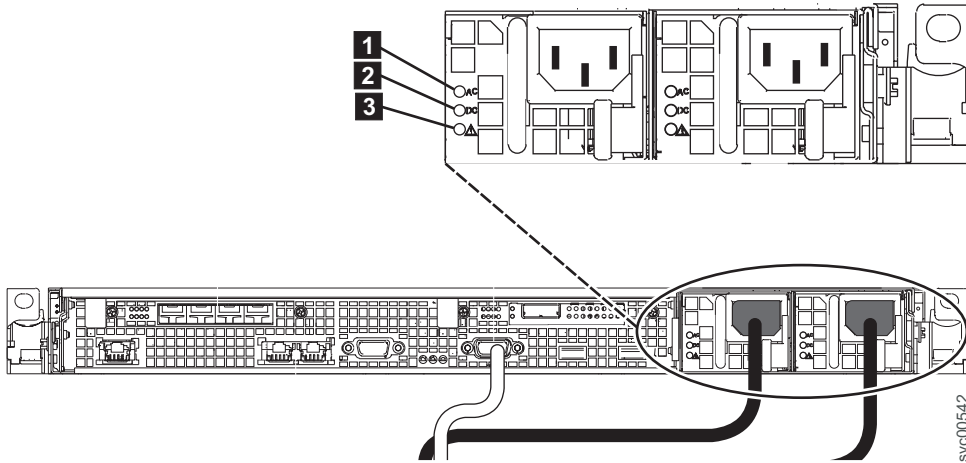

Figure 154. SAN Volume Controller 2145-CG8 or 2145-CF8 ac, dc, and power-error LEDs
5. To the left of the power-cord connector on each power supply, verify that the ac power LED, as shown by **1** in Figure 154 on page 172, and the dc power LED (**2**) are lit.